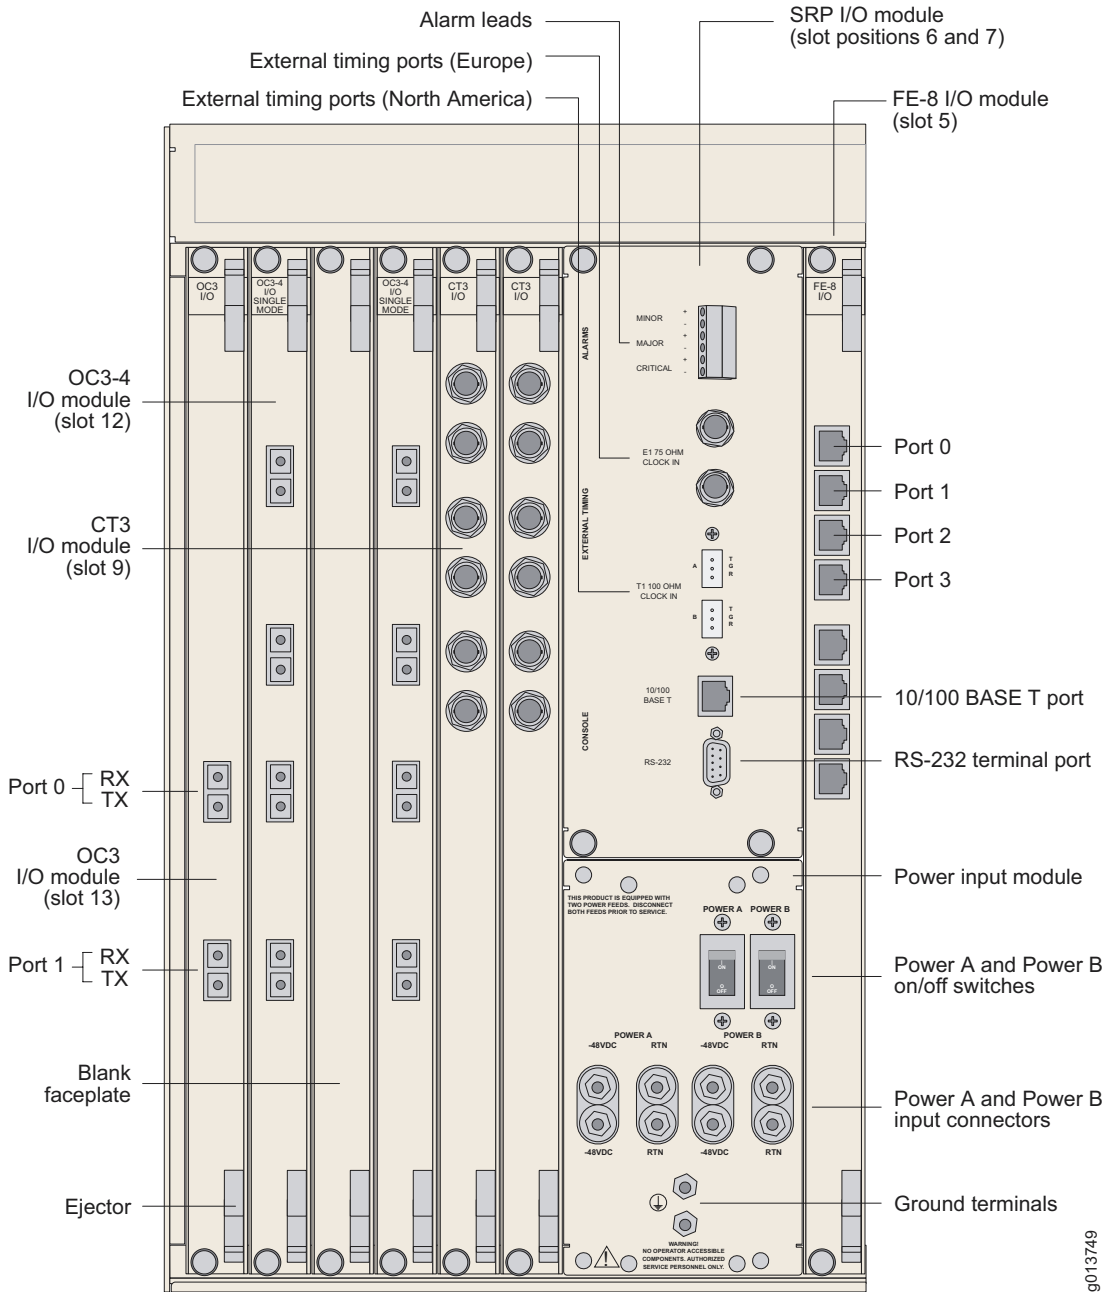

Figure 6-1 E-series ports and connectors (ERX-14xx model shown)
- 1** Familiarize yourself with the module ports, and ensure that you have the cables and wires needed to complete each cabling procedure (see Figure 6-1).